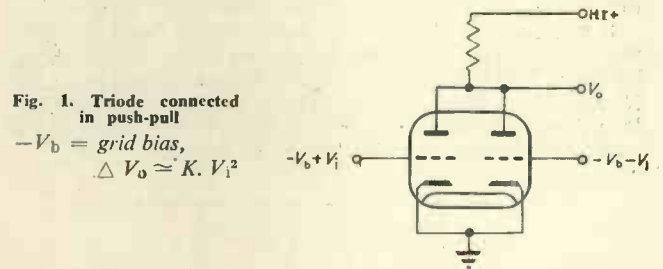

Fig. 1. Triode connected in push-pull
- (1) Diodes connected to a mesh of resistors and batteries.
- (2) A near parabolic relationship between anode current and grid voltage for a double triode connected in push-pull (see Fig. 1).